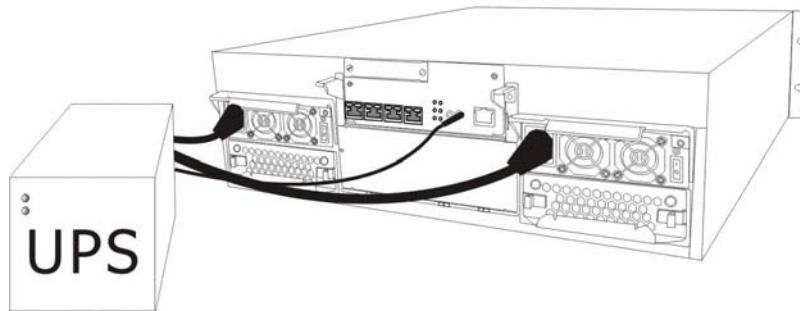

Figure D-2: Connecting the UPS to the Subsystem
The two (2) power cables shipped with the subsystem must be plugged into the power cord sockets in the rear of the PSU modules. The plug at the other end of the power cable must be inserted into a socket on the UPS. (See *Figure D-2*) Please refer to the UPS manual to determine the location of these sockets. The UPS must then be connected to main power.
The separately purchased audio-jack to DB9 serial cable connects the COM2 port on the controller module to the UPS directly. (See *Figure D-2*) The cable transmits UPS status updates to the controller module and will in turn determine the write policy of the controller module. To connect the serial communication cable to the subsystem controller, insert the audio jack connector on one end of the cable into the COM2 port on the controller module. To see how to connect the DB9 connector to the UPS, please refer to the documentation that came with your UPS.